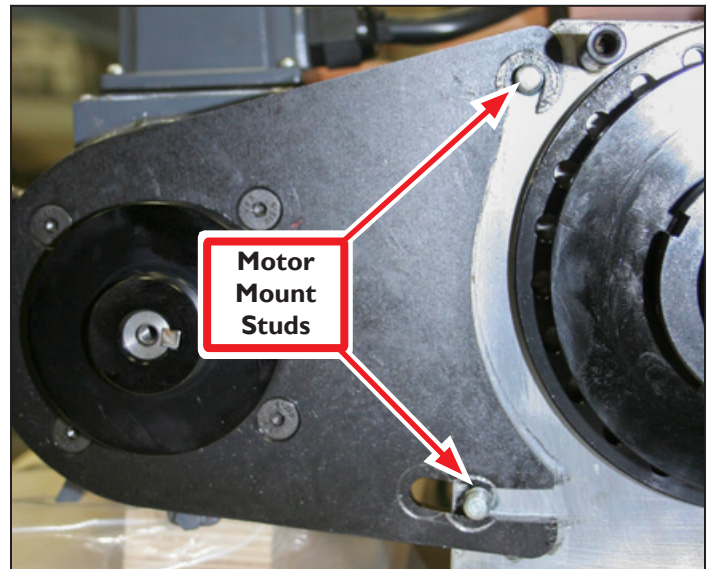

Figure 2.8
6. Slide motor sideways off of two Motor Mount Studs (see **Figure 2.8**); set aside.
NOTE: Motor Bracket hooks around top Motor Mount Stud and slides on to bottom Motor Mount Stud (see **Figure 2.8**).